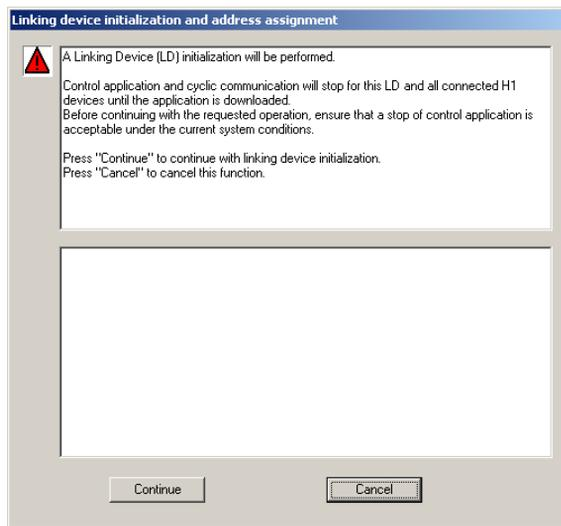

Figure 181. Linking device initialization and address assignment
7. Start the precommissioning of the linking device by means of **Continue** (refer to Figure 181).